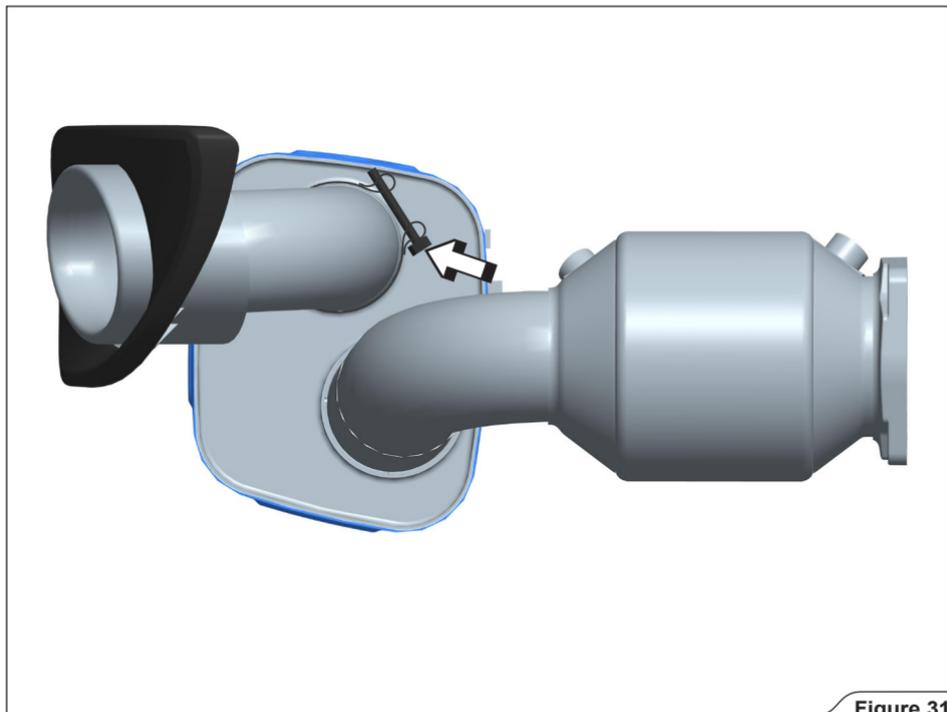

Figure 31
16. For **Slip-On and Slip-On with optional Link Pipes**: tighten the marked muffler outlet's clamp on both sides of the muffler (**Figure 31**).